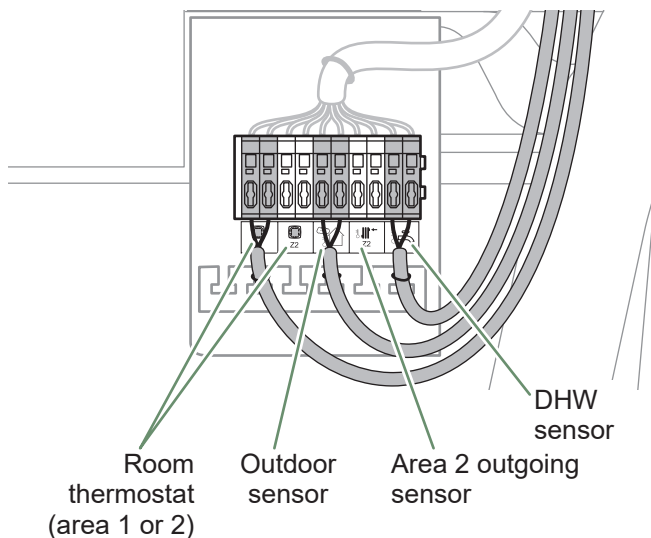

fig. 45 - SELV cable bushing
Ensure that all of the electrical cables are housed in the spaces provided (*fig. 45*).
- Connect the outdoor sensor (*fig. 45*).
Connect the room thermostat 1 (*fig. 45*).
Connect the room thermostat 2 (*fig. 45*).